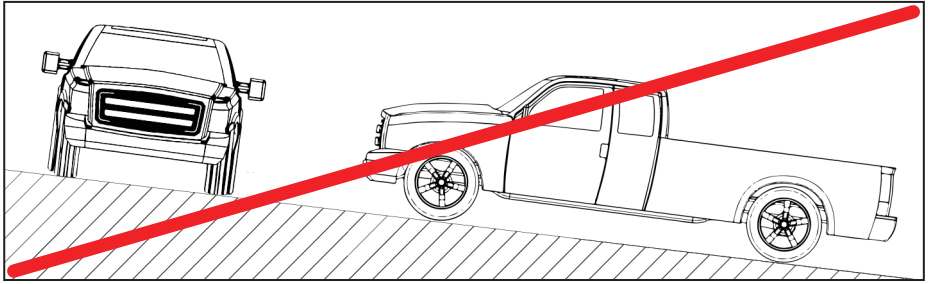

Figure 10 — Do not exceed 20° grade
- Ensure the vehicle the system is mounted to is not parked on grades exceeding 20° as this will affect lubrication and air/oil separation (Figure 10).